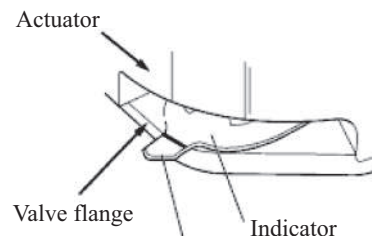

Fig. 1 Indication of open/close
- ① When the red mark on the valve indicator can be seen, it means that the valve is opened fully, or it is fully closed when it cannot be seen. (Fig. 1) In the event the lateral 3-way ball valve is used, the red mark can be seen at the form (B or C) where the fluid is flowing.